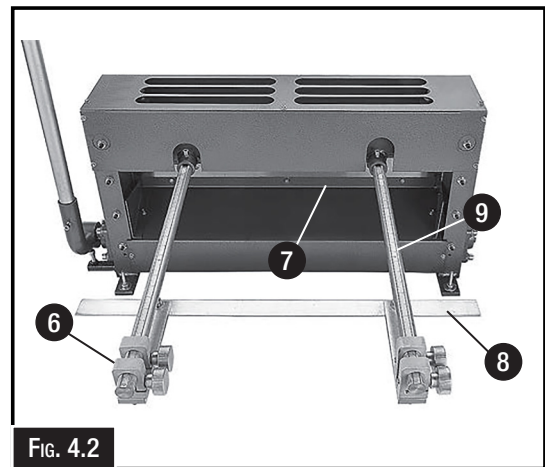

Fig. 4.2
6. **Work Stop Adjustment Assembly:** Moves the rear work stop in or out at a specific distance from the lower blade. Allows the operator to set up the shear for multiple cuts of the same length. (Fig. 4.2)